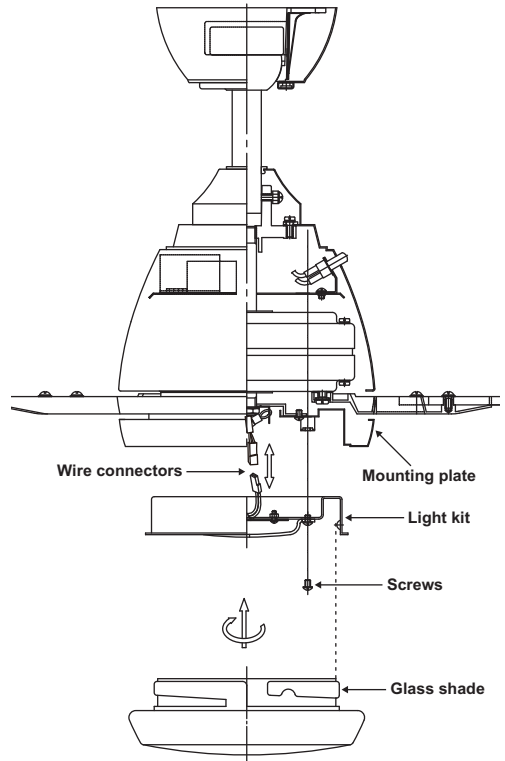

Figure 16
Step 3. Place the key holes in the LED light kit over the two mounting screws previously loosened from the mounting plate. Turn the light kit until the light kit locks in place at the narrow section of the key holes. Secure by tightening the two light kit mounting screws previously loosened and the one previously removed. (Fig. 16)
Step 4. Install the glass shade by carefully turning it clockwise until snug. **DO NOT OVERTIGHTEN.** (Fig. 16)